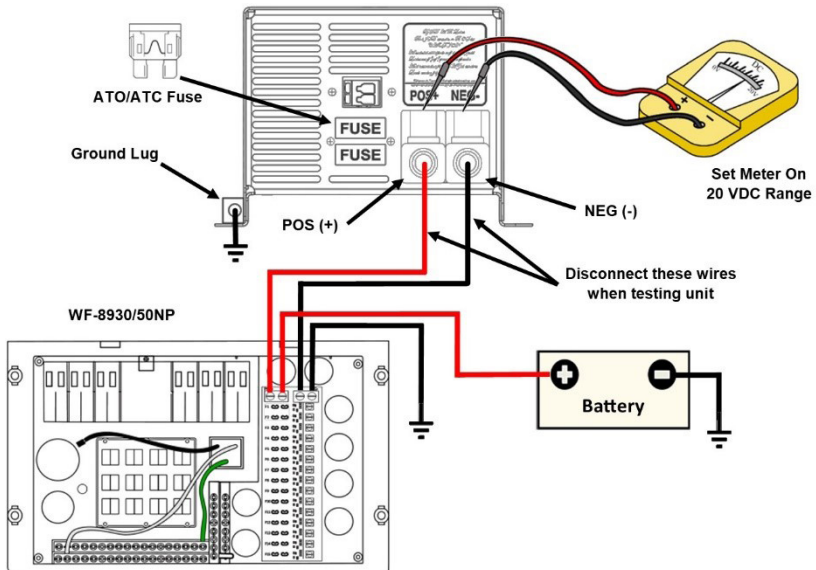

Figure 4
Before checking the WF-9800LiS Series Converter-Charger output voltage, disconnect the battery cables at the battery. Make sure the converter is plugged into a live AC source (105-130 Volts). Check the converter output voltage at the battery with a voltmeter. Place the meter probes on the disconnected battery cables; place the **Positive** (red) meter probe on the + **Positive** red battery wire and place the **Negative** (black) meter probe on the -**Negative** black wire on the battery cable (Figure 4). Be sure you have good connections at the cables. With the switch in the Lead Acid (LA) position, if the voltage reads 13.6 - 14.4 VDC (+/- 0.2) with no load, the converter is functioning properly. With the switch in the Lithium (LI) position, if the voltage reads 13.6 - 14.6 VDC (+/- 0.2) with no load, the converter is functioning properly.